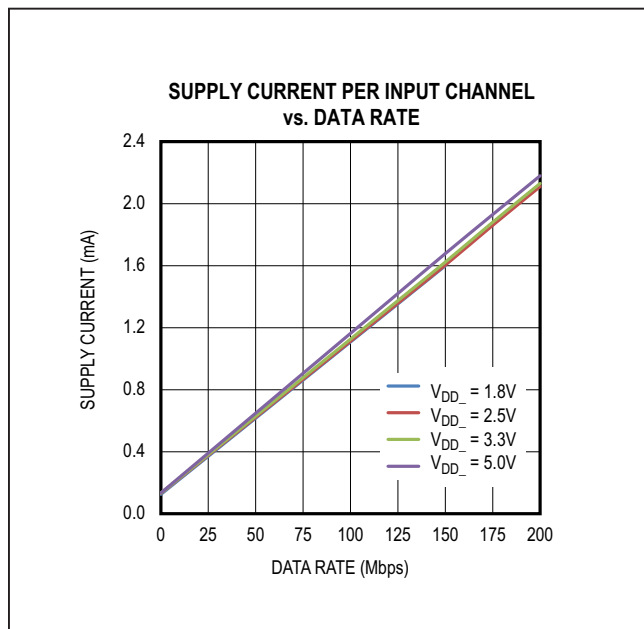
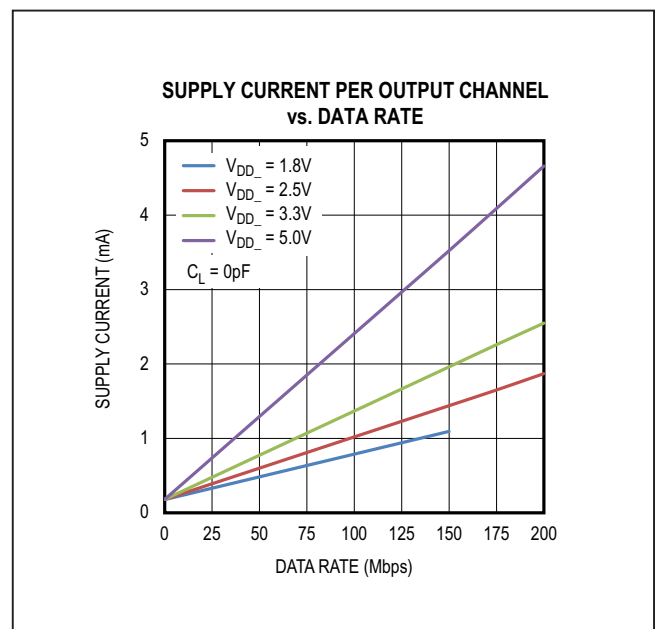

Figure 8. Supply Current Per Input Channel (Estimated)
Figure 9. Supply Current Per Output Channel (Estimated)
The required current for a given supply (V_{DDA} or V_{DDB}) can be estimated by summing the current required for each channel. The supply current for a channel depends on whether the channel is an input or an output, the channel’s data rate, and the capacitive or resistive load if it is an output. The typical current for an input or output at any data rate can be estimated from the graphs in Figure 8 and Figure 9. Please note the data in Figure 8 and Figure 9 are extrapolated from the supply current measurements in a typical operating condition.
The total current for a single channel is the sum of the “no load” current (shown in Figure 8 and Figure 9) which is a function of Voltage and Data Rate, and the “load current,” which depends on the type of load. Current into a capacitive load is a function of the load capacitance, the switching frequency, and the supply voltage.
- Channel 1 is an input channel operating at 2.5V and 20Mbps, consuming 0.33mA, estimated from Figure 8.
- Channel 2 and 3 are input channels operating at 2.5V with DC signal, consuming 0.13mA, estimated from Figure 8.
- Channel 4 is an output channel operating at 2.5V and 100Mbps, consuming 1.02mA, estimated from Figure 9.
- Channel 1 is an output channel operating at 3.3V and 20Mbps, consuming 0.42mA, estimated from Figure 9.
- Channel 2 and 3 are output channels operating at 3.3V with DC signal, consuming 0.18mA, estimated from Figure 9.
- Channel 4 is an input channel operating at 3.3V and 100Mbps, consuming 1.13mA, estimated from Figure 8.
| 2 | 11/20 | Updated General Description , Dynamic Characteristics MAX1443_C/F/S/V , Dynamic Characteristics MAX1443_B/E/R/U , Safety Regulatory Approvals , Typical Operating Circuits , and Layout Considerations sections; added Safety Limits and Product Selector Guide sections; added new Figure 2–3 and renumbered subsequent figures; replaced Figure 8–9; updated Table 1; added Table 2, Table 4 and renumbered subsequent tables; added Product Selector Guide | 1, 6–12, 13–15, 19–24 |